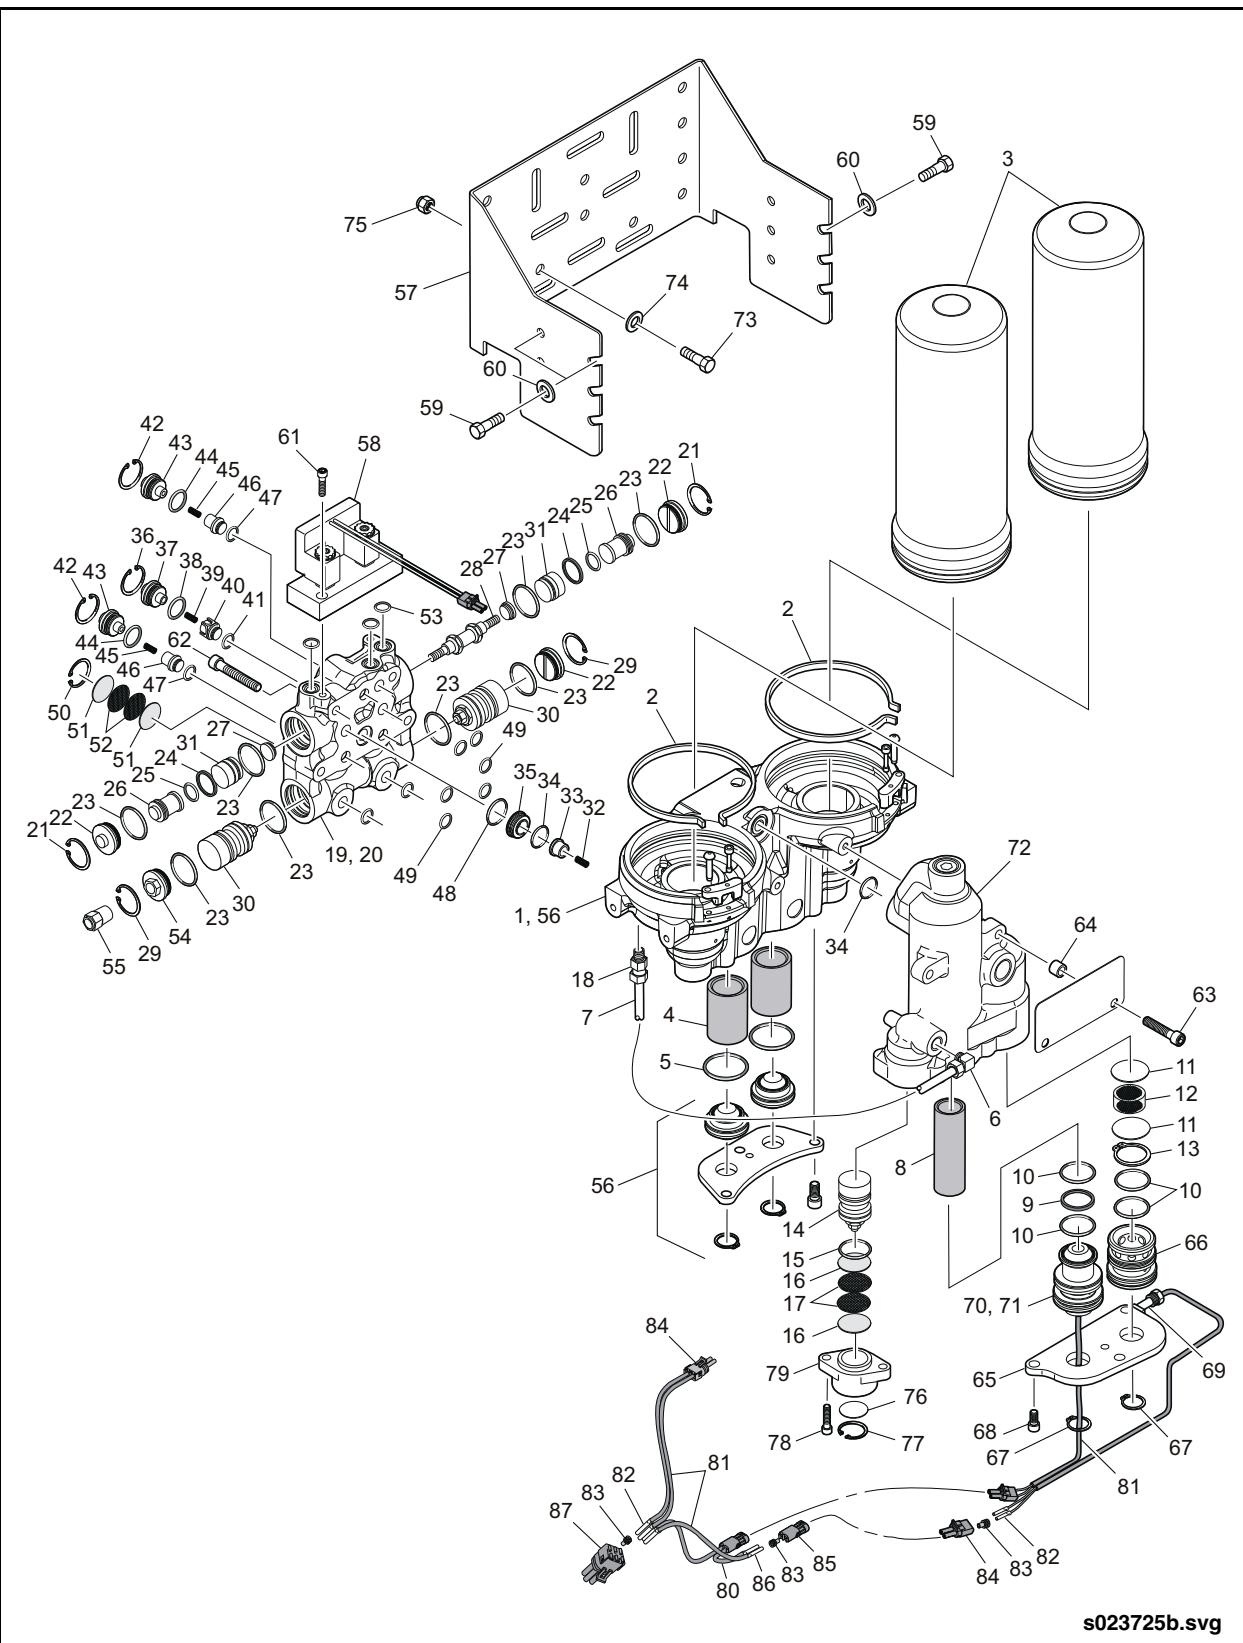

Fig. 8-8: Air Dryer Assembly
- a. Release the safety retainer by removing the screw with a 5/32" Allen wrench. Swing the safety retainer outward to expose the retaining ring. See "Fig. 8-8: Air Dryer Assembly" on page 40.